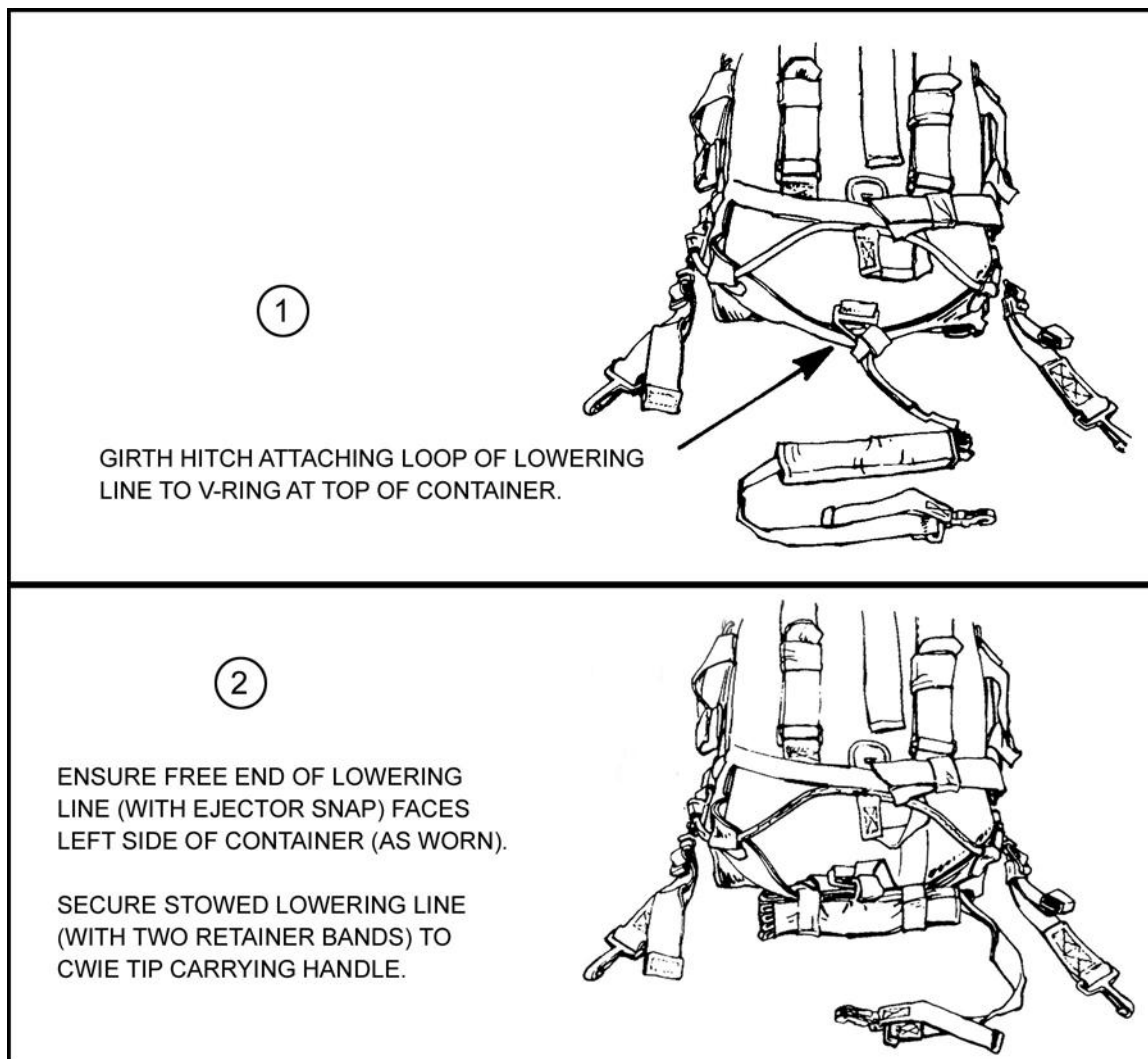

Figure 12-28. HPT lowering line attached to CWIE.
g. The looped end of the lowering line is threaded through the V-ring and under the carrying handle on top of the harness assembly. The entire length of the lowering line is pulled back through the loop and then pulled tight (Figure 12-28).